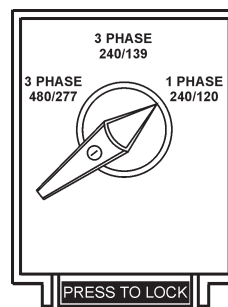

Figure 37. Voltage Selector Switch
1. Place the voltage selector switch in the desired voltage position (Figure 37).